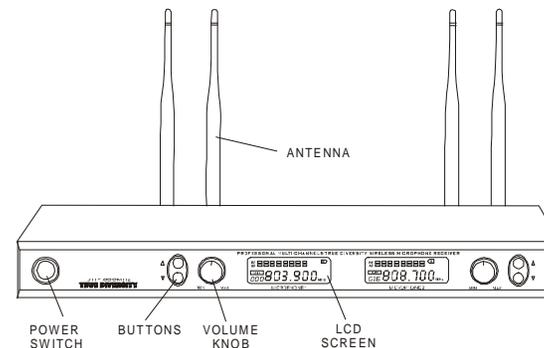

Fig.29 Receiver 8242
4.9.1 True diversity receiver 8240 was shown in Fig.29. Take out the receiver and the receive antennas from packing box; place the receiver near the performance area (stage), mounting the antennas to the receiver. Point the antennas upward. Make sure, that the transmitter (microphone) will never get any closer to the receiver than 10 ft (3m), optimum separation is 16 ft (5m). There should always be a direct line of sight between the microphone and receiver. Place the receiver least 5 ft (1.5m) away from any big metal objects, walls, scaffolding, ceilings, etc.